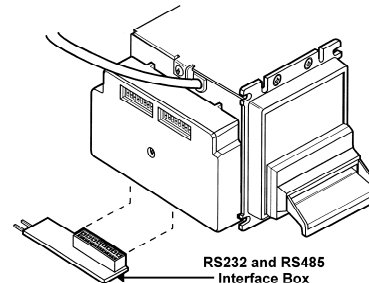

Figure 1.
*Note: a interface box is needed when using RS232 or RS485 interfaces. See Figure 1*